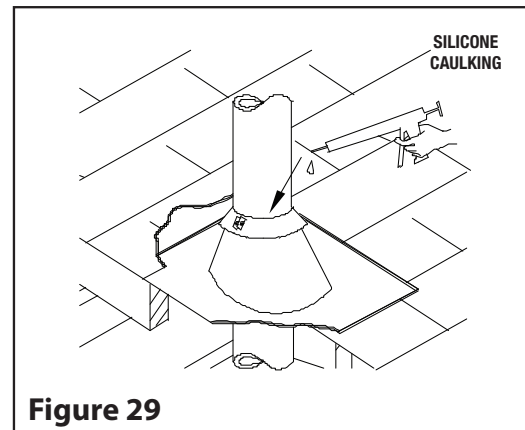

Figure 29
Step 8: Tighten it with the bolt supplied and make sure the joint is properly caulked (see Figure 29).